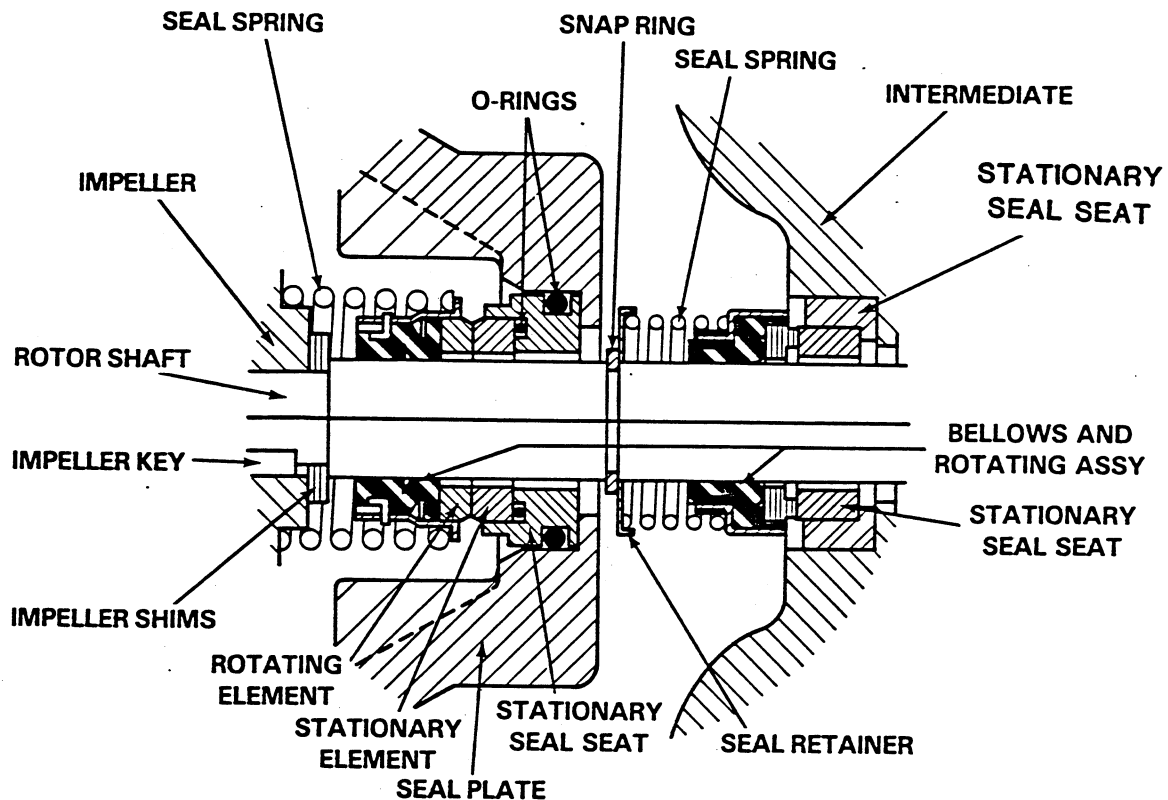

Figure 3. Seal Assemblies 46512-036 and 25271-824
Install the shaft seals as illustrated in Figure 3.
Slide the seal spring over the shaft and bellows retainer, and install the spring retainer. Install the seal retaining ring (13). See Figure 3 for proper order of seal assembly.
Unpack the stationary seat, and check that the O-rings are properly installed (see Figure 3). Apply a light coating of oil to the outer O-ring. Press the stationary seat into the seal bore until it bottoms squarely.